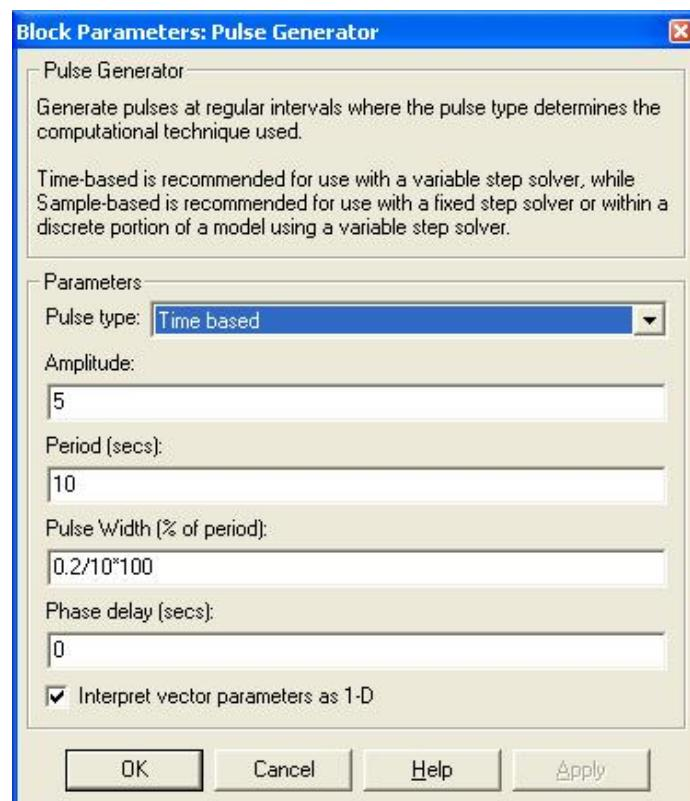

Figure 5.3: Pulse Generator configuration for Lab 5
4. As in Lab 9, enter the motor state equation using the values of  $k_E$  and  $\tau$  that were estimated in Lab 1 (make sure that you specify the appropriate output). Double-click on the **Pulse Generator** icon and enter the information as shown in Figure 5.3. The **Pulse Generator** introduces the impulse function